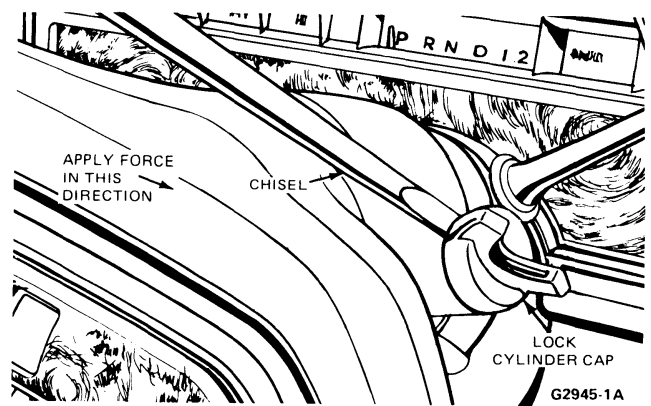

FIG. 14 Breaking The Cap Away From The Lock Cylinder
5. Tilt the steering column to the full down position. Place a chisel at the base of the ignition lock cylinder cap, and, using a hammer, strike the chisel with sharp blows to break the cap away from the lock cylinder. (Fig. 14.)